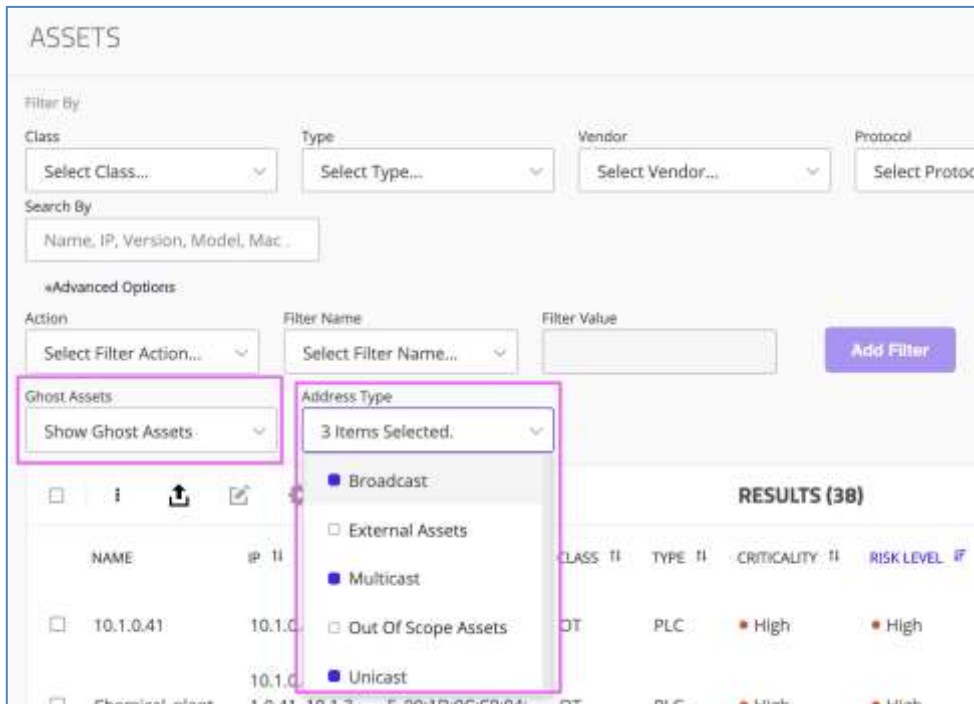

Figure 74 Check Assets
- ◆ **Address Type:** Unicast, Multicast, and Broadcast (see Figure 74).